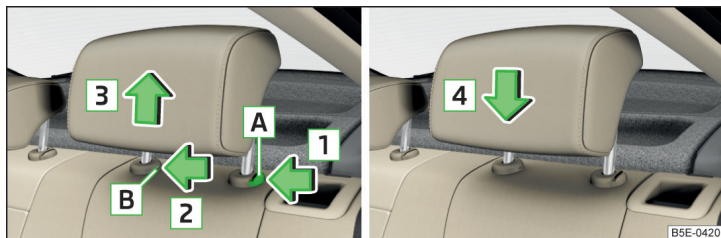

Fig. 73 Rear headrest: Removal / Installation
- Press the locking button **A** in the direction of arrow **1** » Fig. 73, while at the same time using a flat screwdriver with a max. width of 5 mm to press the securing button in opening **B** in the direction of arrow **2**.